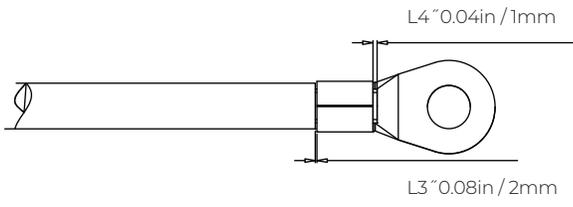

Fig. 7-4-2
**Step 2:** Insert the exposed core wires into the OT terminal and crimp them with a crimper, as shown in Fig. 7-4-2.